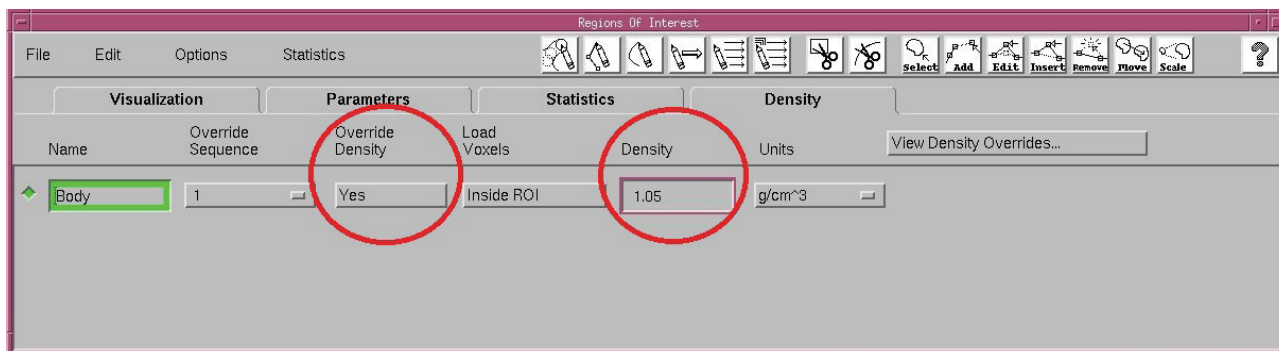

Fig. 2.11 Regions Of Interest window
8. The **Regions of Interest** window appears (Figure 2.11). Here, the phantom correct physical density (1.05 g/cm³) has to be set.